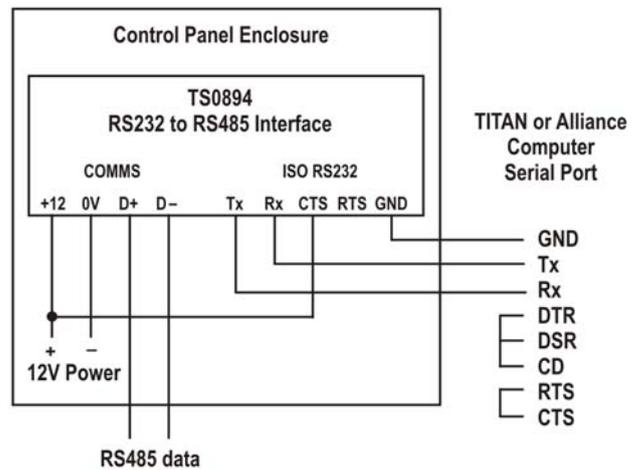

Figure 8: TS0894 connections when used to provide RS232 communications for connection with a TITAN or Alliance computer's serial port (DB9 connector)
- See Figure 8 for Alliance or TITAN connection details.